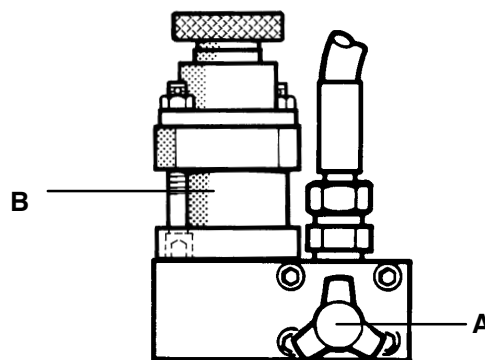

Fig. 22 Change-over device
(Fig. 22) This device allows bottle filling to 200 bar (3,200 psig) with a 300 bar (4,700 psig) rated unit. Safety valve (2) and filling device PN 200 bar are connected by opening change-over valve (1) and the connected bottles can be filled with a 200 bar pressure, as described in "Filling the bottles".